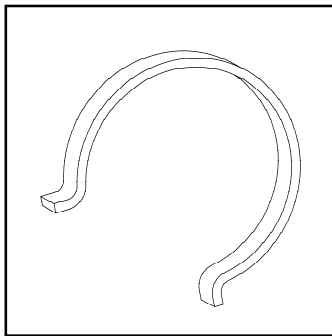

Figure 3. Retaining Clip
7. Install the timing belt being careful to engage the appropriate teeth of the crankshaft sprocket, and then fit a retaining clip (Fig. 3) to secure the belt teeth engaging with the crankshaft sprocket tightly.